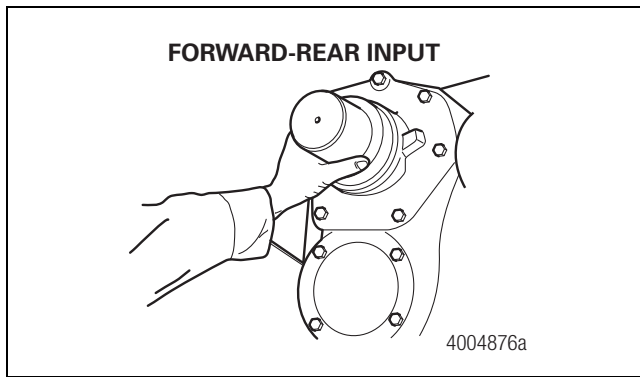

Figure 11
8. Install the forward-rear axle input seal. Hold the sleeve and seal only on the outer diameter. Position the seal onto the seal driver and align it with the forward-rear axle input bearing cage. Do not touch the lips in the inner diameter of the seal. Use a dead-blow hammer and the appropriate driver to install the seal into the bearing cage. Figure 11.